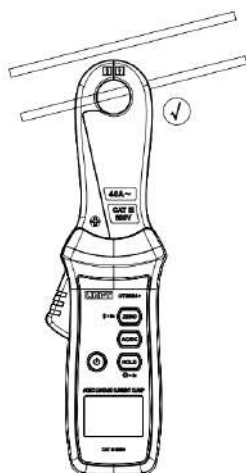

Figure 4.1
- 2) Open the clamp jaw, place it around the current conductor, and then close the jaw. (See Figure 4.1)